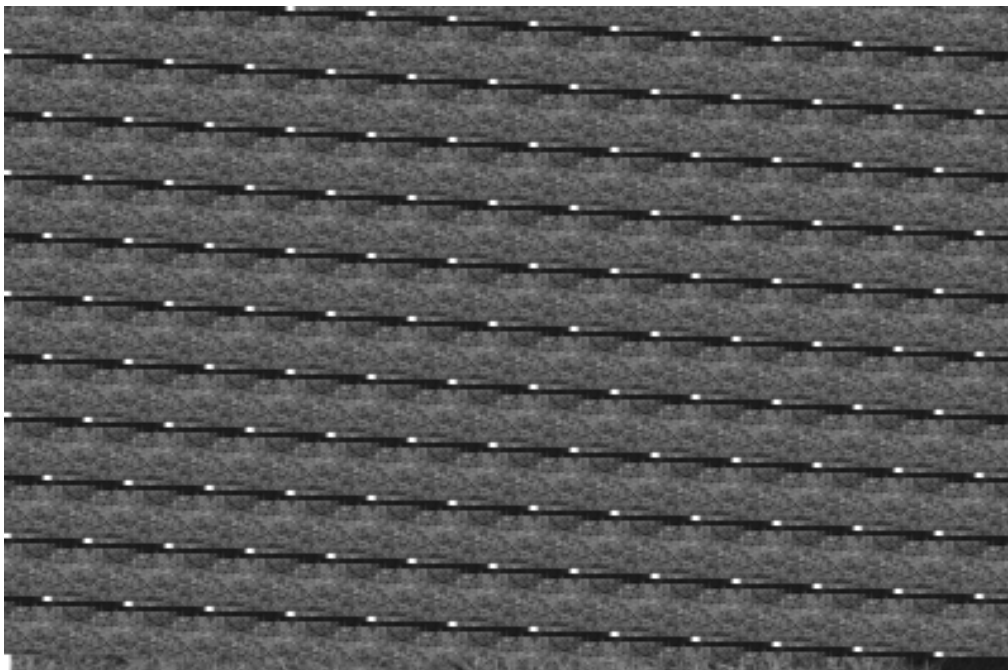

Figure 15
Step 16.) Pick up the canopy, flip it over 180 degrees lay it into the container with the line pouch down in the pack tray. (See Figure 15.)